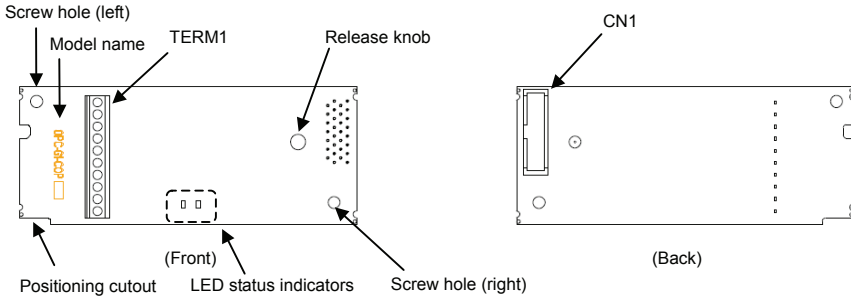
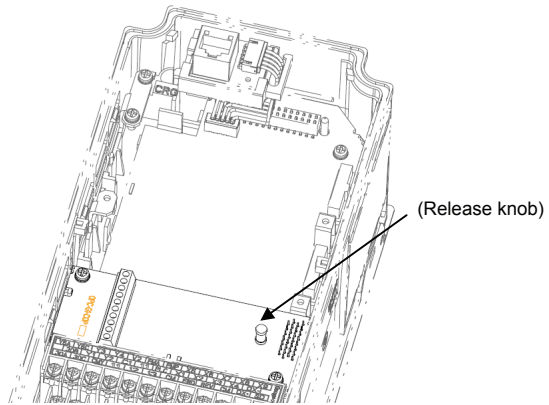

Figure 2.1 Names of Parts on CANopen Communications Card
Figure 3.3 Mounting Completed (on A-port)
- (1) A communications card, two screws (M3 × 8), and the CANopen Communications Card Instruction Manual (this manual) are contained in the package.
- (2) The communications card is not damaged during transportation—no defective parts, dents or warps.
- (3) The model name "OPC-G1-COP" is printed on the communications card. (See Figure 2.1.)
Figure 2.1 shows the names of the parts on the CANopen communications card.
- (2) Insert connector CN1 on the back of the communications card (Figure 2.1) into the A-port (CN4) on the inverter's control PCB. Then secure the communications card with the two screws that come with the card. (Figure 3.3)
Note Check that the positioning cutout (shown in Figure 2.1) is fitted on the tab (① in Figure 3.2) and connector CN1 is fully inserted (② in Figure 3.2). Figure 3.3 shows the communications card correctly mounted.
- (3) Perform wiring to the communications card.